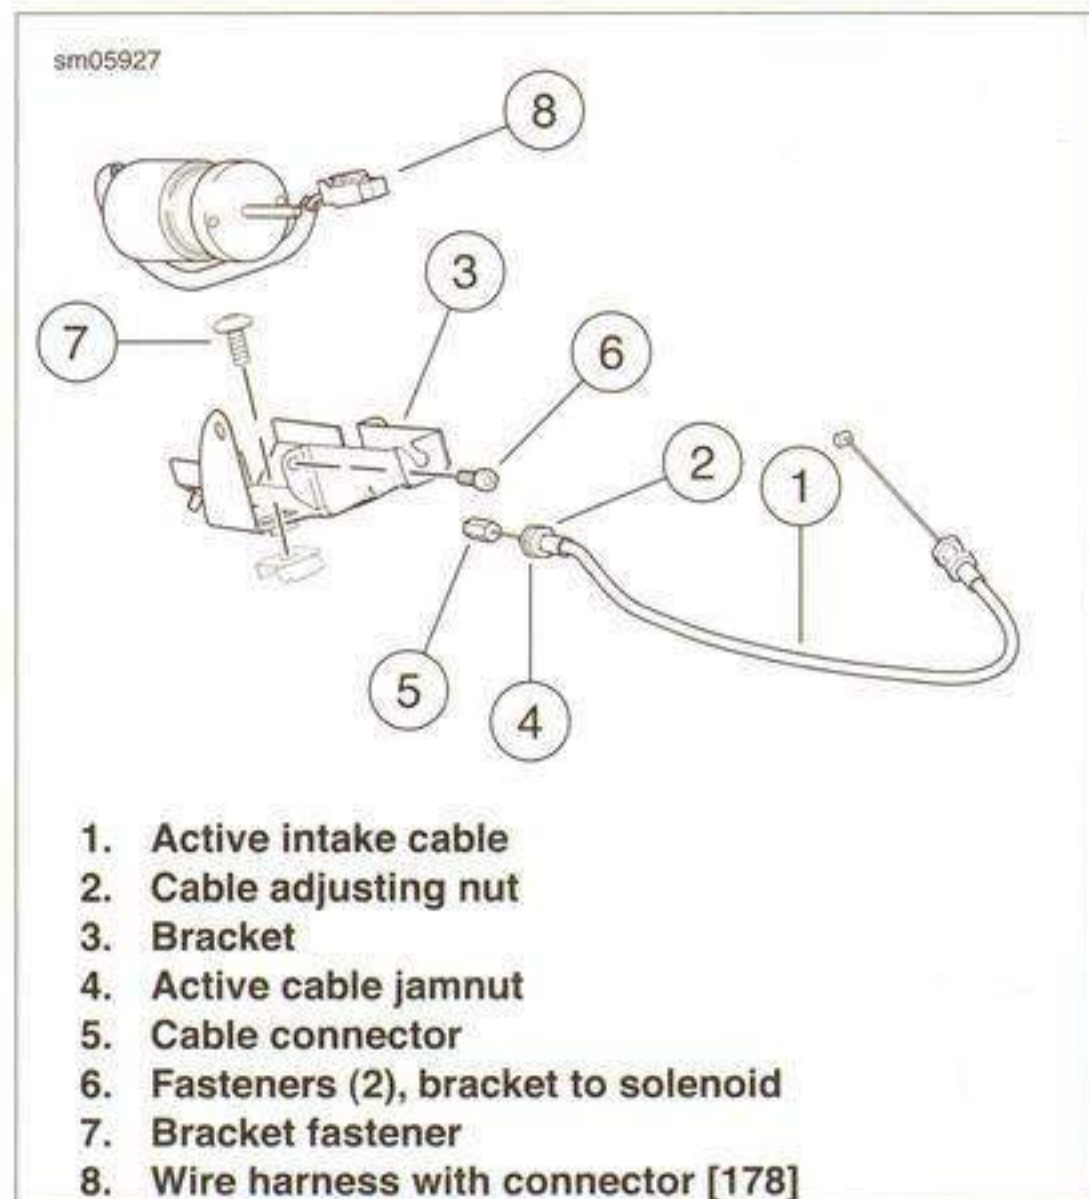

Figure 4-44. Active Intake Solenoid and Components
1. See Figure 4-44. Disconnect electrical connector [178] (8).
2. Hold solenoid shaft by flat spot provided and break cable connector (5) loose.
4. Loosen jamnut (4) and disconnect cable (1) from bracket (3).
- See Figure 4-44. Install solenoid bracket and tighten fastener (7) to 10.6-11.8 Nm (94-104 in-lbs).
1. Install solenoid into bracket (3) and tighten bracket to solenoid fasteners (6) to 2.7-3.0 Nm (23.5-26.0 in-lbs).
3. Install active cable (1) into bracket (3) and leave jamnut (4) loose until the setting can be verified.
4. Connect active cable to solenoid shaft and tighten cable connector (5) to 4.1-4.5 Nm (36-40 in-lbs).
5. Connect electrical connector [178] (8).